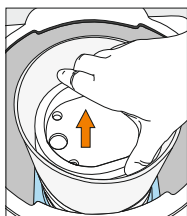
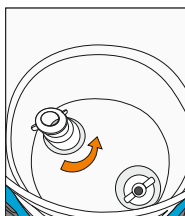
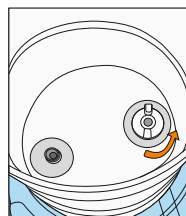

Figure 23
Figure 24
Figure 25
5. Remove the baffle cup by lifting straight out (Figure 23). Loosen & remove the baffle stem and wing nut by turning counterclockwise (Figure 24 and Figure 25).